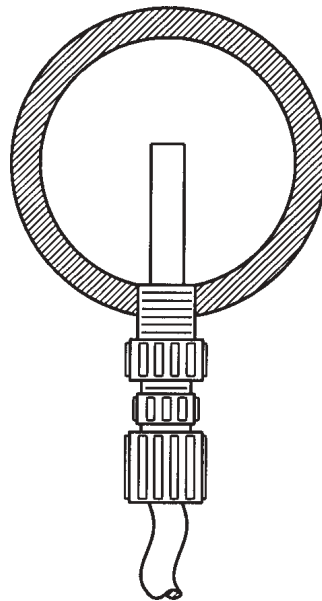

Figure 2.5
- Pipe corrosion can result if dilution at the injection point does not occur rapidly. This problem is easily prevented by observing this simple rule: install injection fitting so that the end is in the center of the flow stream of the line being treated. Trim injector tip as required. See Figure 2.5.